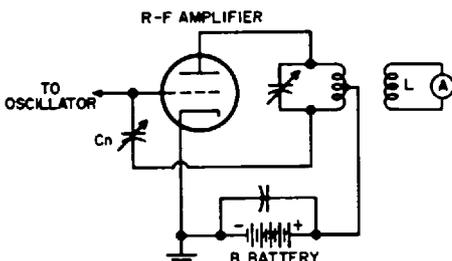

Fig. 41-19. Circuit showing how a radio-frequency amplifier is neutralized.
**Neutralizing the Radio-Frequency Amplifier.** When the radio-frequency amplifier tube is a triode, we must neutralize the feedback that occurs through the capacitance between the grid and plate of the tube. We encountered this problem in the study of receivers (see Chap. 23). Figure 41-19 shows the circuit employed to neutralize the amplifier tube in a transmitter.